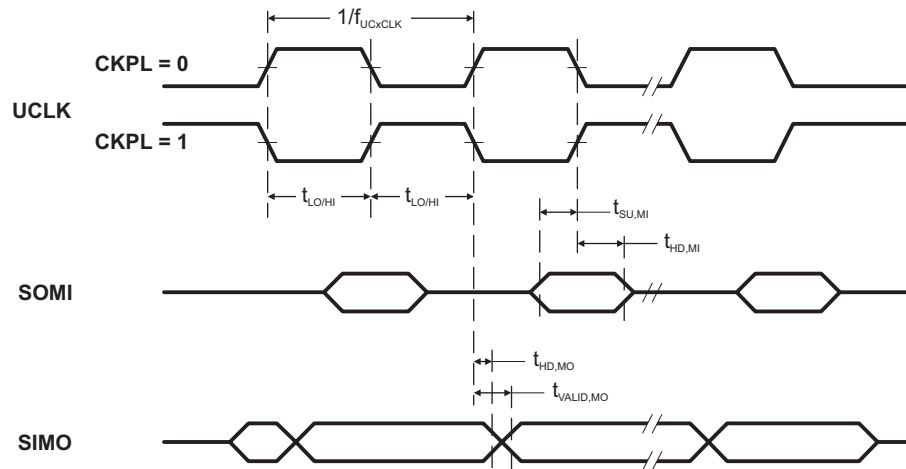
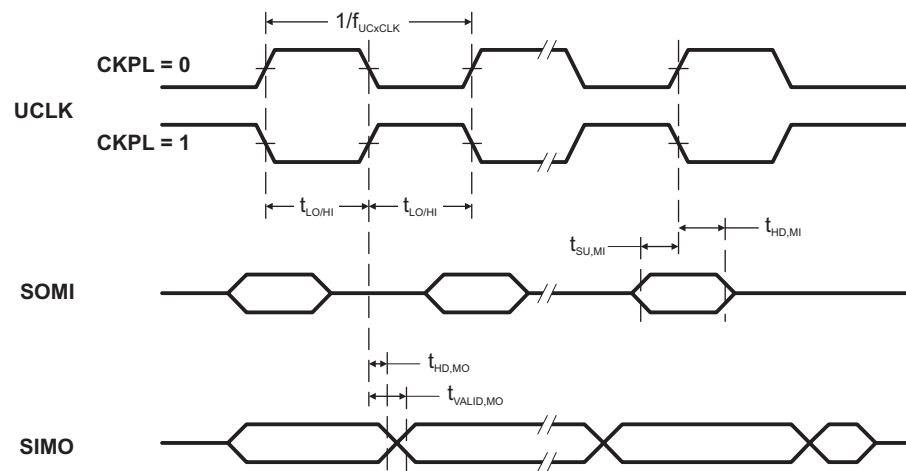

Figure 15. SPI Master Mode, CKPH = 0
Figure 16. SPI Master Mode, CKPH = 1
(see Note ⁽¹⁾, Figure 15 and Figure 16)
- (1) f_{UCXCLK} = 1/2t_{LO/HI} with t_{LO/HI} ≥ max(t_{VALID,MO}(USCI) + t_{SU,SI}(Slave), t_{SU,MI}(USCI) + t_{VALID,SO}(Slave)). For the slave's parameters t_{SU,SI}(Slave) and t_{VALID,SO}(Slave) see the SPI parameters of the attached slave.
- (2) Specifies the time to drive the next valid data to the SIMO output after the output changing UCLK clock edge. See the timing diagrams in Figure 15 and Figure 16.
- (3) Specifies how long data on the SIMO output is valid after the output changing UCLK clock edge. Negative values indicate that the data on the SIMO output can become invalid before the output changing clock edge observed on UCLK. See the timing diagrams in Figure 15 and Figure 16.
(1) $f_{UCXCLK} = 1/2t_{LO/HI}$ with $t_{LO/HI} \geq \max(t_{VALID,MO(Master)} + t_{SU,SI(USCI)}, t_{SU,MI(Master)} + t_{VALID,SO(USCI)})$.For the master's parameters $t_{SU,MI(Master)}$ and $t_{VALID,MO(Master)}$ see the SPI parameters of the attached master.(2) Specifies the time to drive the next valid data to the SOMI output after the output changing UCLK clock edge. See the timing diagrams in Figure 15 and Figure 16.(3) Specifies how long data on the SOMI output is valid after the output changing UCLK clock edge. See the timing diagrams in Figure 15 and Figure 16.